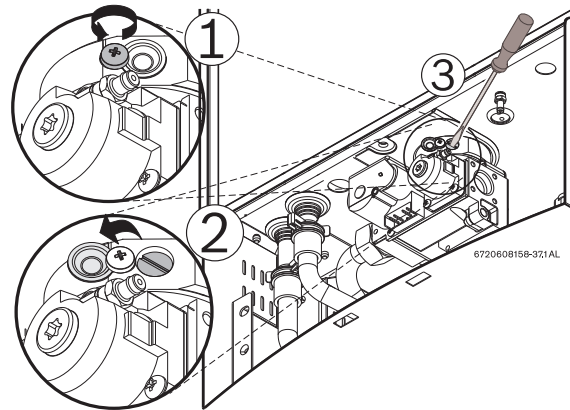

Fig. 59 Adjusting P1 CO₂ level
- ▶ Loosen yellow painted philips screw (1) and cover should rotate down (2) revealing a recessed brass slotted screw. Fig. 59.